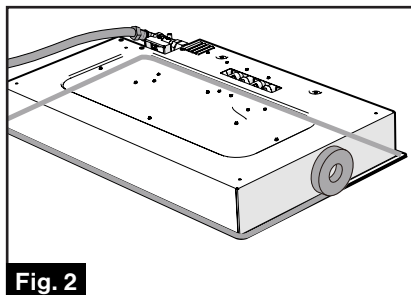

Fig. 2
1. Affix the roll of butyl tape (included in the cooktop packaging) around the underside edge of the cooktop. Remove the butyl tape protective film. (Fig. 2)